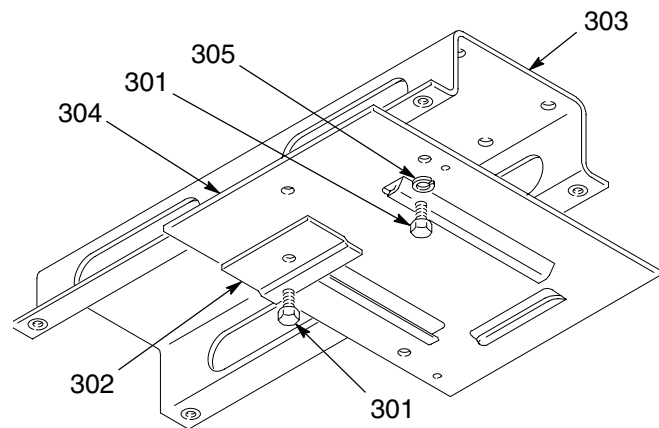

Fig. 2
2. **If you are NOT installing a hose reel enclosure,** order the Reel Mounting Base parts listed on page 26, and install the mounting channel (303) and base plate (304) as shown in Fig. 2.